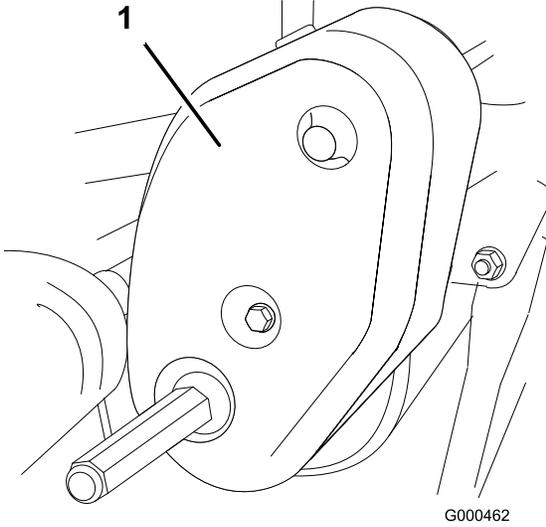

Figure 44
1. Remove belt cover mounting fasteners and belt cover to expose belt (Figure 44).